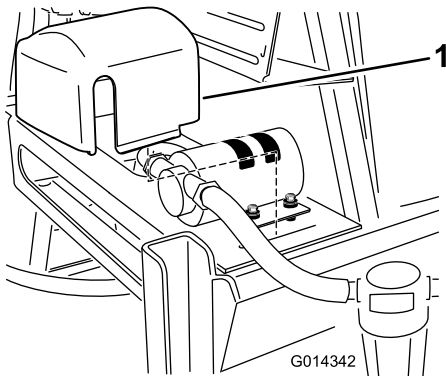

Figure 28
6. Install the rinse-pump cover over the pump (Figure 28).
2. Install the delay timer in the location shown in Figure 28.